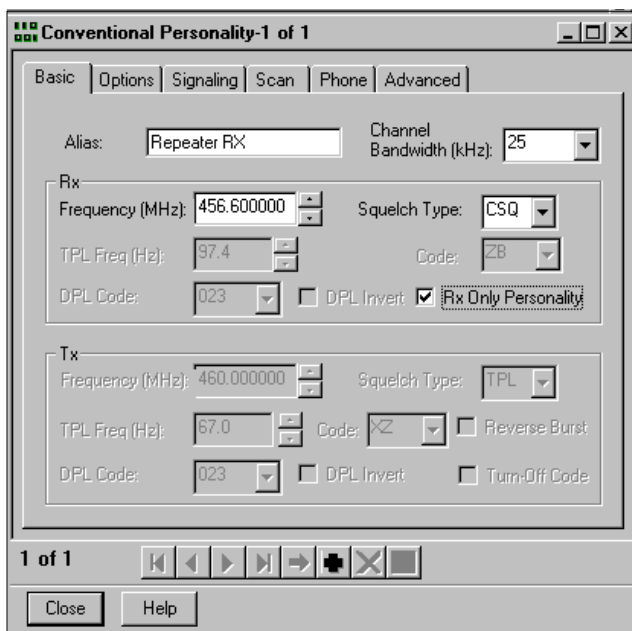

Figure 10-3. Conventional Personality, Basic, Receive Radio
19. Check the “Rx Only Personality” box. Your screen should appear similar to Figure 10-3.